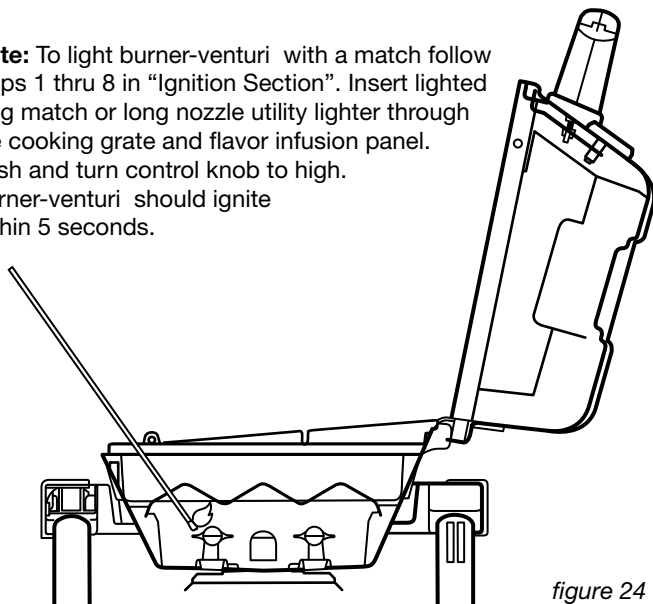

figure 24
9. Push and turn control knob to high. Push the igniter button several times to light. To use a match or long nozzle utility lighter see *figure 24*. Burner should ignite within 5 seconds.